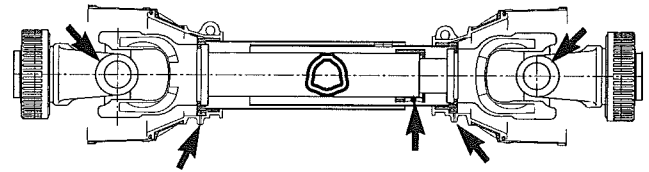

Figure 14
1. Power take-off shaft universal joints (2). One fitting in each yoke and one fitting in the telescoping PTO shaft, see Figure 14.
2. Caster wheel spindles (2). One fitting in each caster wheel bracket.
3. Caster wheel bearings (2). One fitting on each wheel.
4. Rotor bearings (2). One fitting on each end of the rotor.